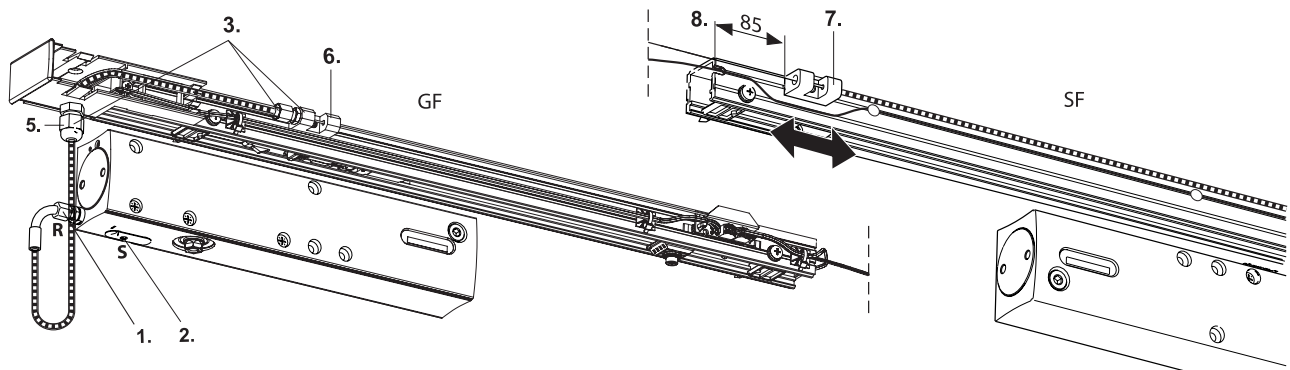

Fig.: 6.6.1
- ▶ Tension wire rope so that the IS valve (fig. 6.6.1) at door closer on moving-leaf end **cannot** be operated (**4.**).